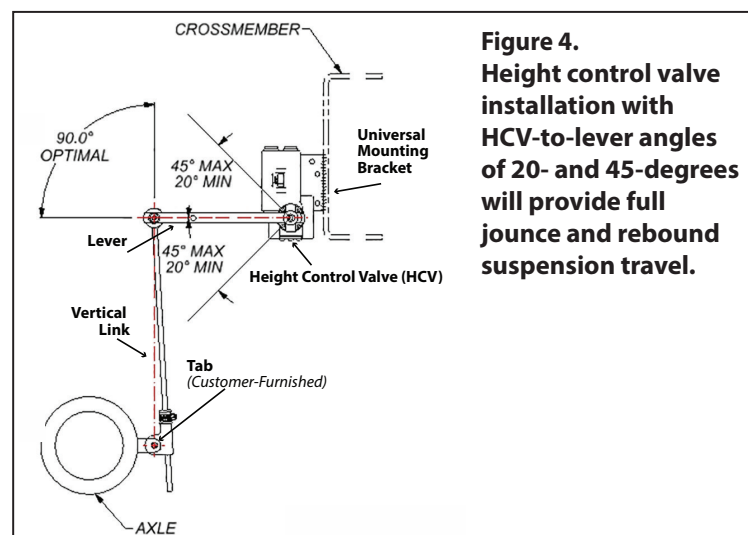

Figure 4.
4. Slide the vertical link up-or-down through the P-Connector until lever arm reaches desired angle (Fig. 4). Tighten the band clamp on the P-Connector to hold vertical link in place. Leave approximately one inch of the rod beneath the P-Connector. Remove the excess rod.